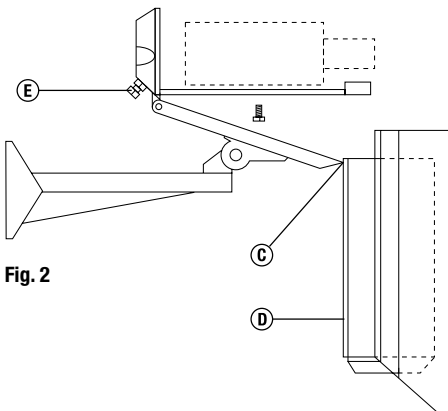

Fig. 2
The body hangs and can be removed totally by pulling the pins (C) out of the rails (D) (fig. 2).
4. Route the cables inside the glands (E) (fig. 2).
6. Install the camera with screw and the insulating washer (fig. 2).